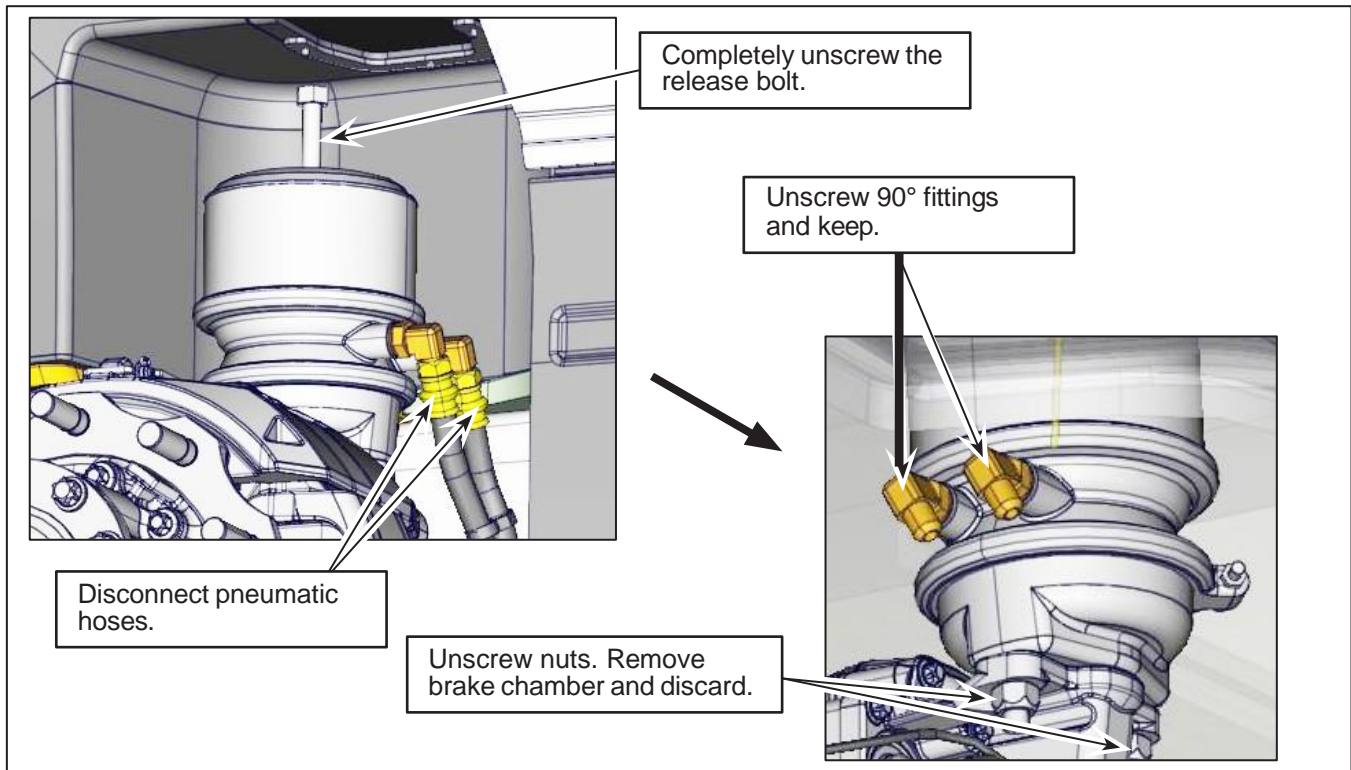

Figure 2 - Brake Chamber Street Side
- 2.2. Completely remove the bolt on the top of the brake chamber (Figure 2).